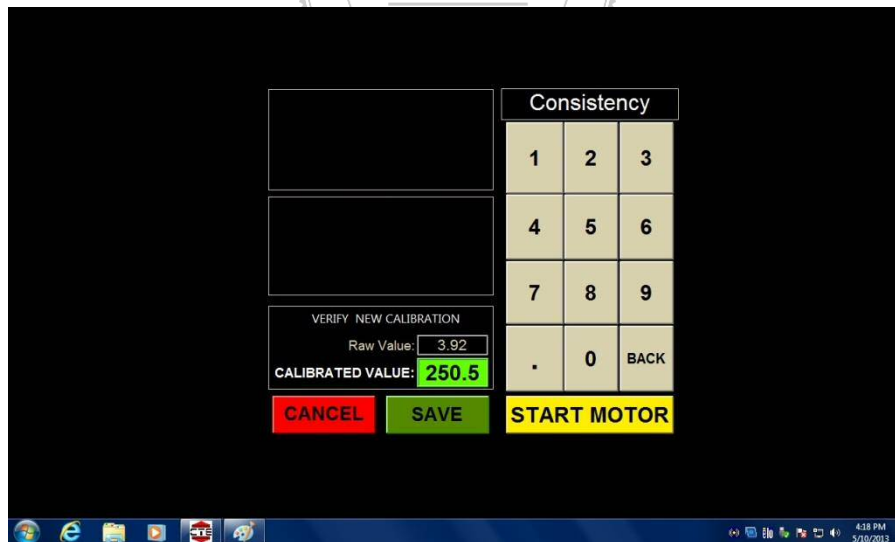

Figure 10
9. By removing weight from the hanger it is possible to verify the **CALIBRATED VALUE** as shown in figure 10. If the values are correct, calibration is complete. If the values are incorrect, repeat steps making adjustments to potentiometer mechanism as required. Refer to table 1 for weight to Bc conversions for your pot-mech.